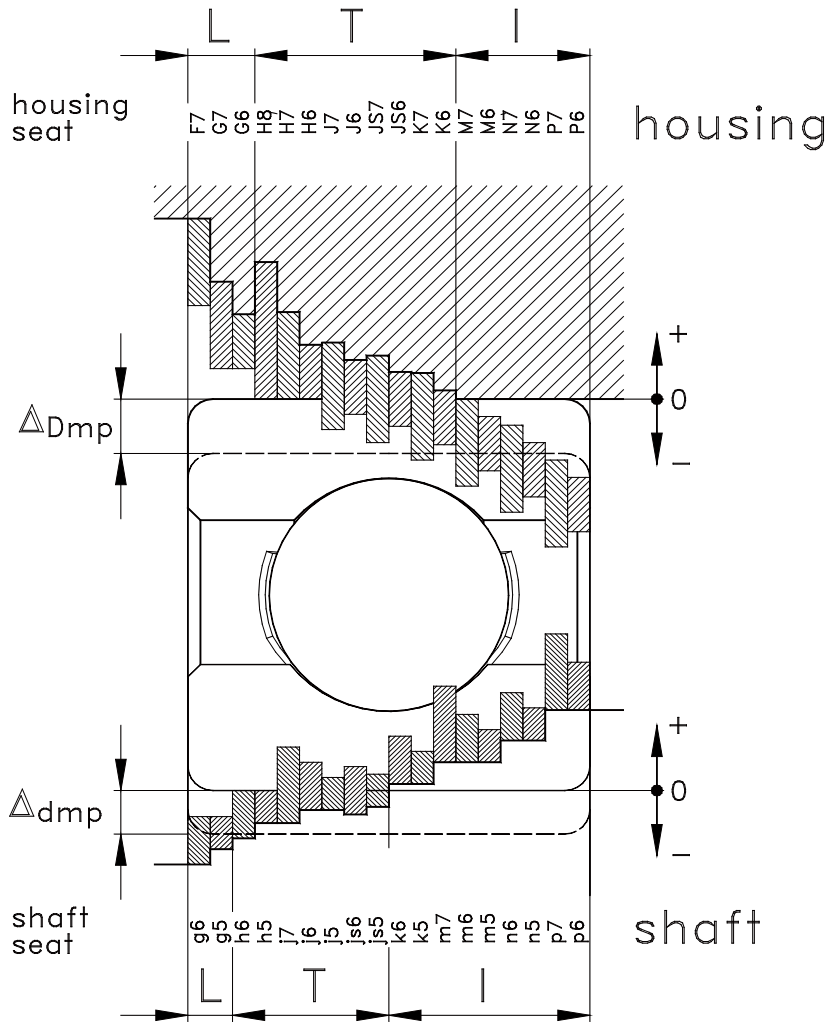

Fig. 7.2
**Fig. 7.2** shows schematic values of the most frequently used ISO tolerance fields, for metric radial bearings of normal tolerance class PN, experienced in general machinery applications.